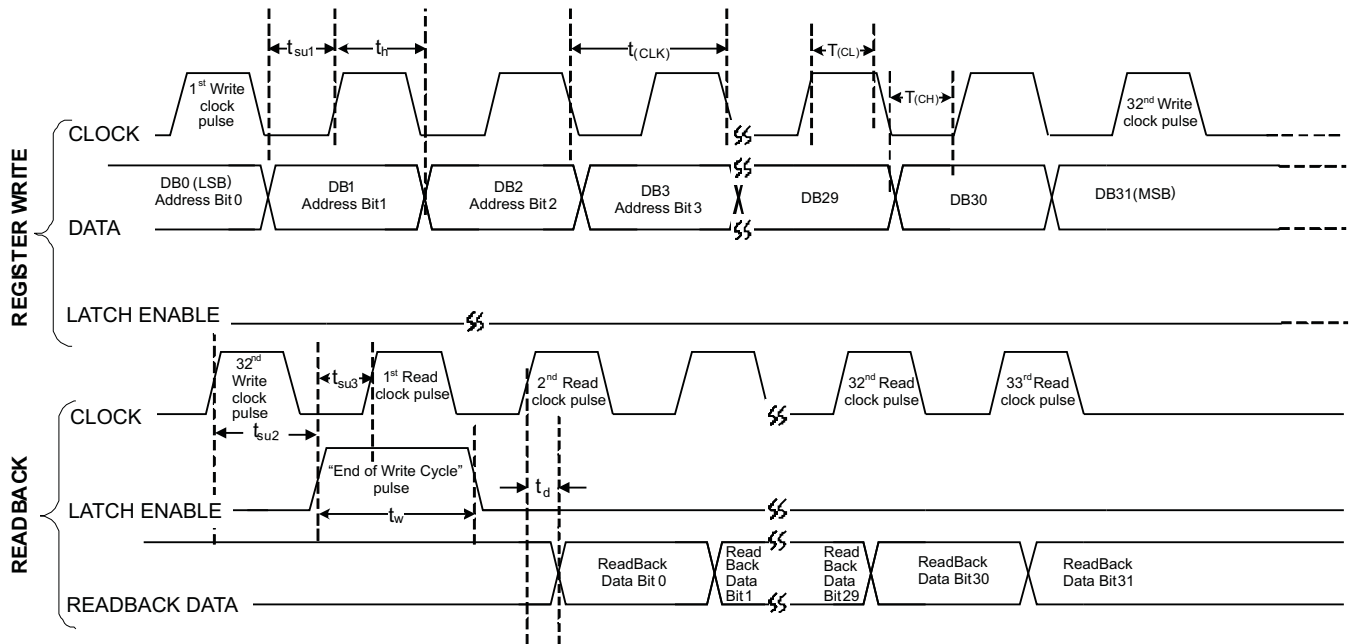

Figure 2. SPI Read-Back Timing Diagram
(1) See Figure 2 for timing diagram.
(2) Equals Clock period